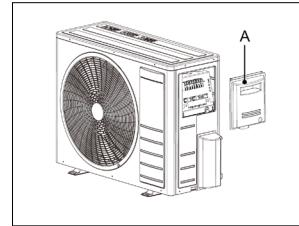

fig. 26 -
- 1.Retire o painel lateral (A - "fig. 26 -").